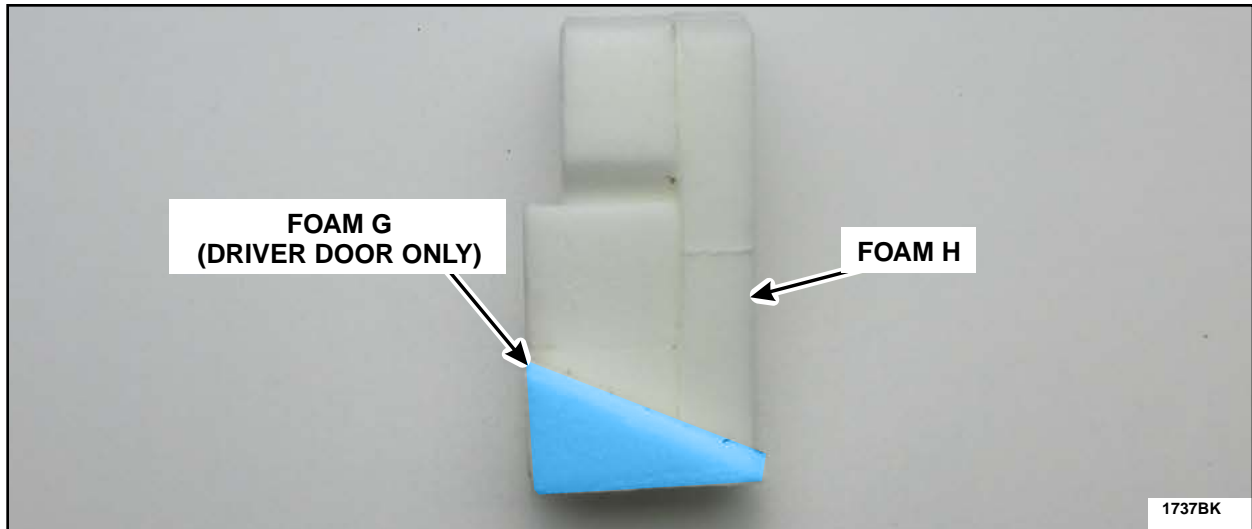

FIGURE 30
1. For driver door latch only, attach Foam G to Foam H. See Figure 30.